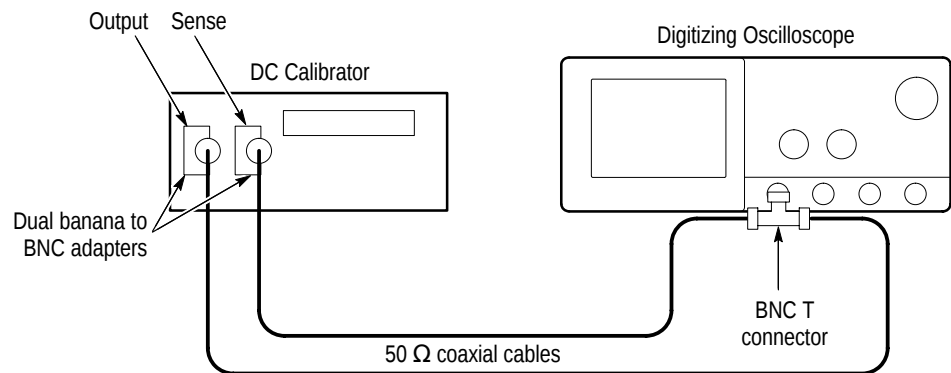

Figure 4–5: Initial test hookup
- Connect the output of a DC calibration generator through a dual-banana connector followed by a 50  $\Omega$  precision coaxial cable to one side of a BNC T connector. See Figure 4–5.
- Connect the Sense output of the generator through a second dual-banana connector followed by a 50  $\Omega$  precision coaxial cable to the other side of the BNC T connector. Now connect the BNC T connector to **CH 1**. See Figure 4–5.